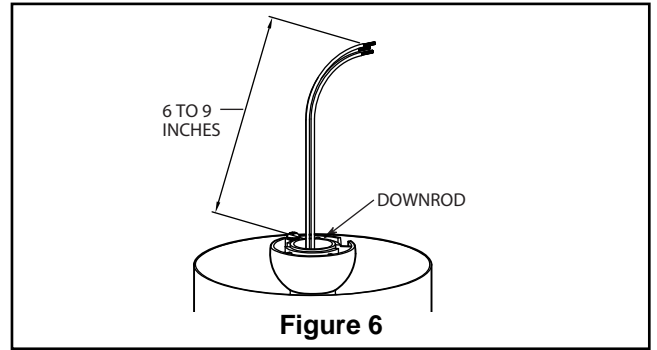

Figure 6
6. Cut off excess lead wire approximately 6 to 9 inches above top of the top of the downrod. Strip insulation off 1/2-inch from the end of each lead wire (Figure 6).
5. After connections have been made, turn leads upward and carefully push leads into the outlet box, with the white and green leads to one side of the box and the black leads towards the other side. The wires should be spread apart with the grounded conductor and the equipment-grounding conductor on one side of the outlet box and the ungrounded conductor on the other side of the outlet box (Figure 6).
- 6. Insert light bulbs into sockets (Figure 6 A).
- 6A. Don't install the light bulbs if you want to install the lower steel cap in Step 7A (Figure 6 B).